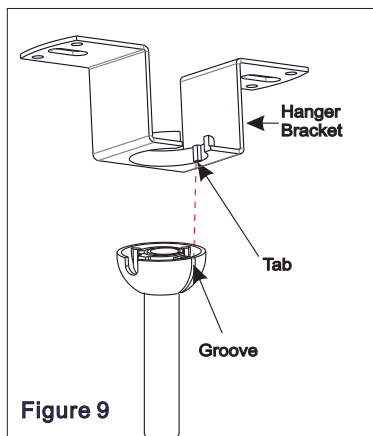

Figure 9
9. Carefully lift the fan, and set the downrod / hanger ball assembly on the hanger bracket attached to the ceiling joist. Be sure the groove in the ball is properly aligned with the tab on the hanger bracket. (Figure 9)